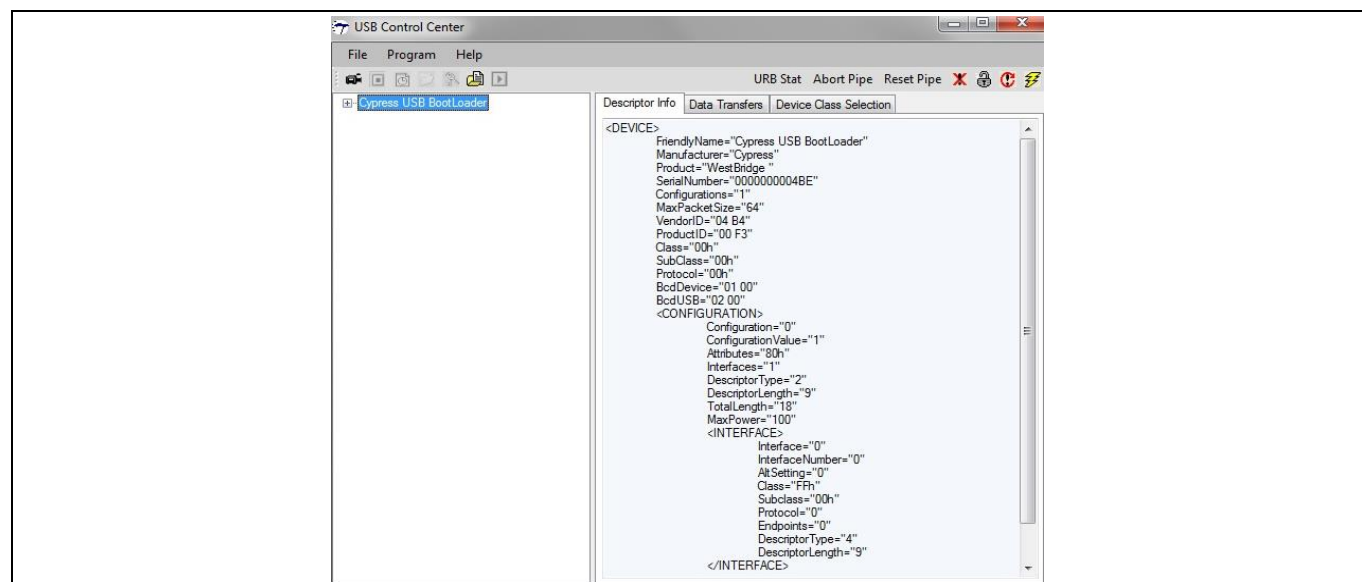

Figure 22 Cypress USB BootLoader enumeration in Control Center
3. When connected to a USB Host, the FX3 device enumerates in the Control Center as “Cypress USB BootLoader,” as shown in Figure 22.